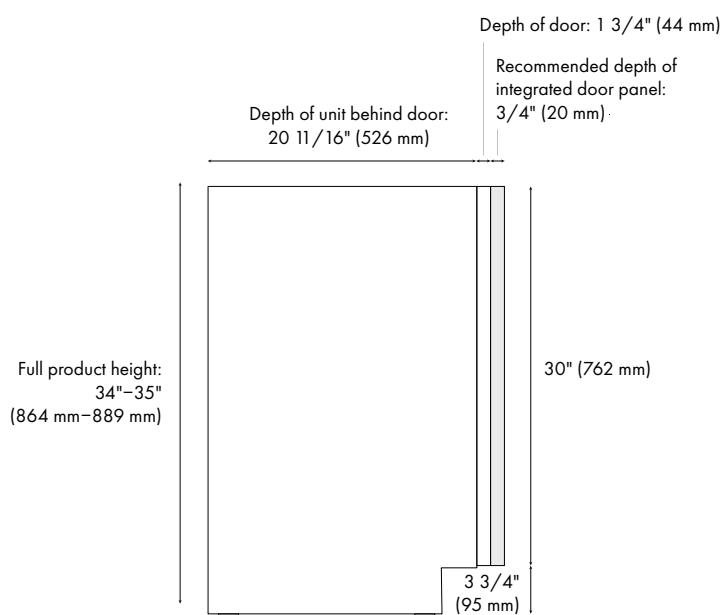

Figure 1
- Figure 1 is a side view of the unit, showing how the panel (in gray) fits over the panel-ready door. A panel depth of no more than  $\frac{3}{4}$ " (19 mm) is recommended.